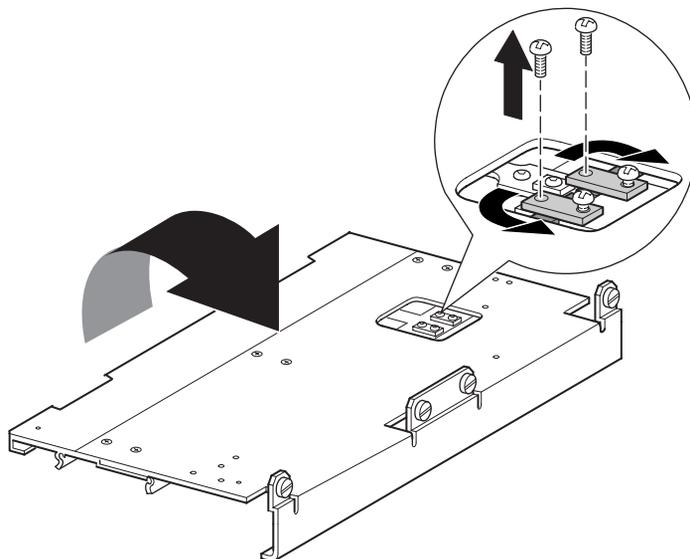

Figure 2–15: Belt block bracket access cutout
6. Turn the PTM base unit over and then remove the drive belt from the media elevator car, the belt tensioner ramp, and the idler pulley (see Figure 2–5).